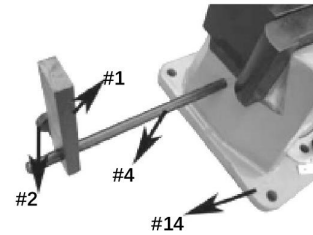

Figure 2
3. Insert screw bolt (#4) into the hole on base (#14), and then tighten set screw (#2) to make support plate (#1) fix tightly with screw bolt (#4). (refer to figure 2).